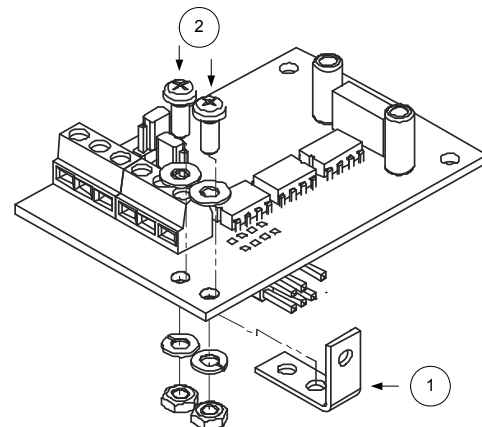

Fig.4
2.1 Install the angular strap pos.1 (Fig.4) by means of the screws pos.2 (Fig.4).